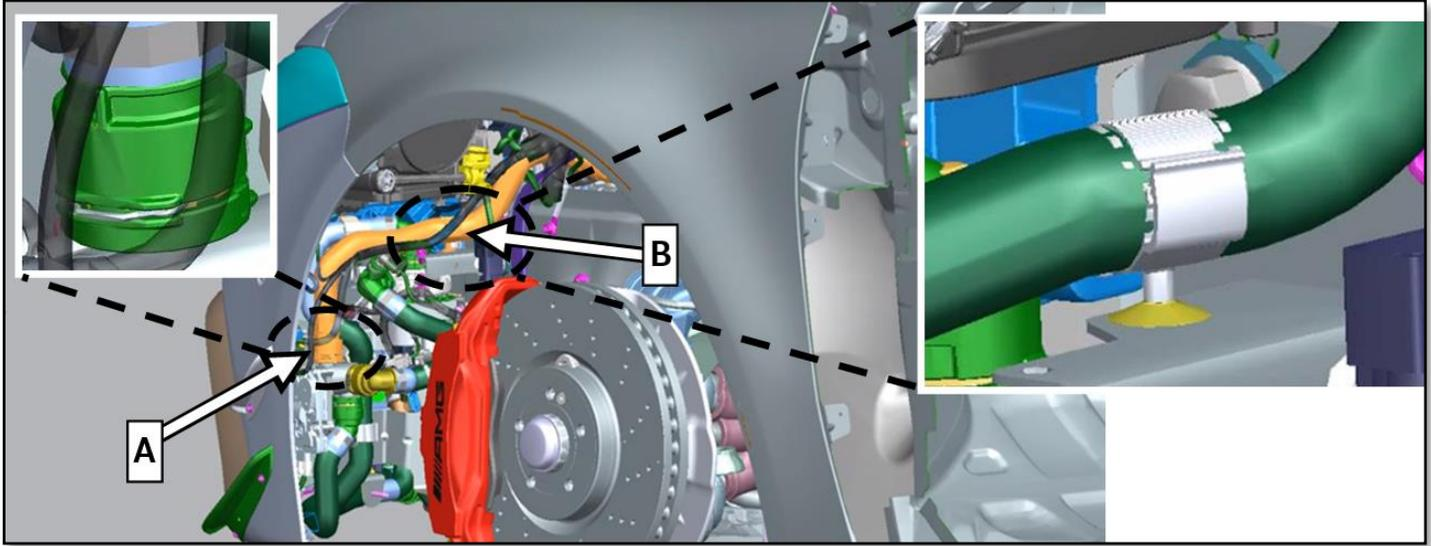

Figure 1
3. Release and remove coolant line **(A, Figure 1)** at switchover valve and open retaining clip **(B, Figure 1)** of coolant line.